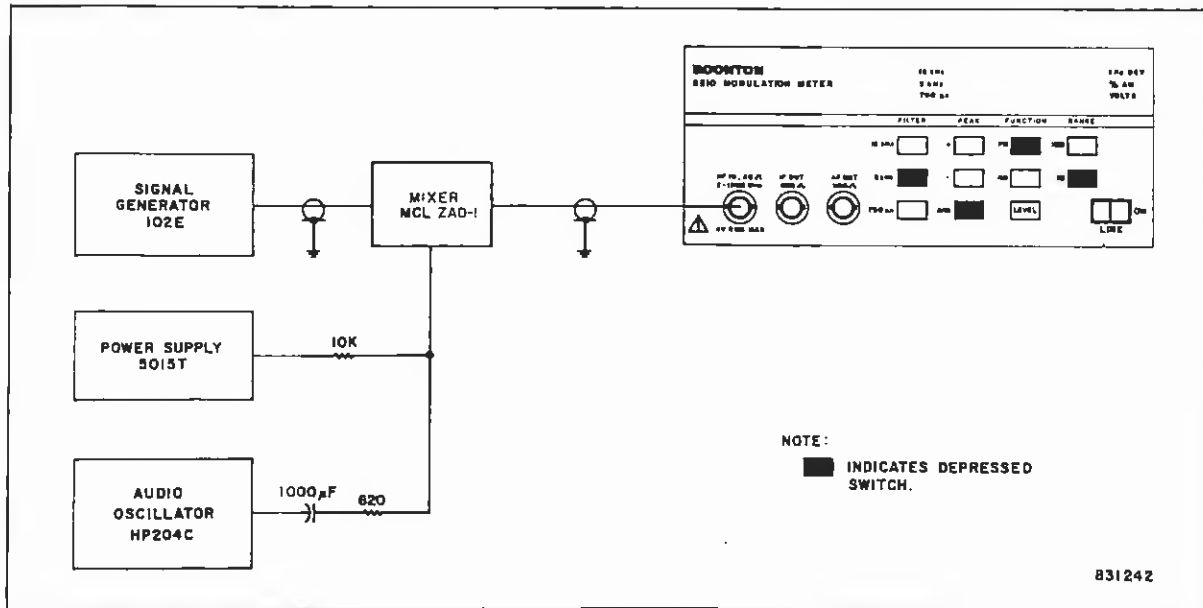

Figure 2-8. Test Setup: A.M. Rejection, A.M. Frequency Response, and A.M. Audio Distortion
- (1) Connect the 8210 and test equipment as shown in Figure 2-8.
- (2) Set the 8210's controls as shown in Figure 2-8.
- (3) Apply a 30 MHz signal, at 0 dBm, from the generator to the mixer.
- (4) Adjust the power-supply output voltage to +10 V d.c. Adjust the audio source for approximately 50% indicated a.m. at a 1 kHz rate.
- (5) Change the 8210's FUNCTION to FM.
- (6) Vary the r.f. level between 0 and +10 dBm for a deviation null. The display should indicate less than 100 Hz peak f.m. (Residual noise-modulation must be subtracted.)
9. A.M. Audio Distortion. NOTE: Step 2-6f, the A.M. Rejection check, should be completed before performing this verification. Leave the equipment set up as in Figure 2-8.